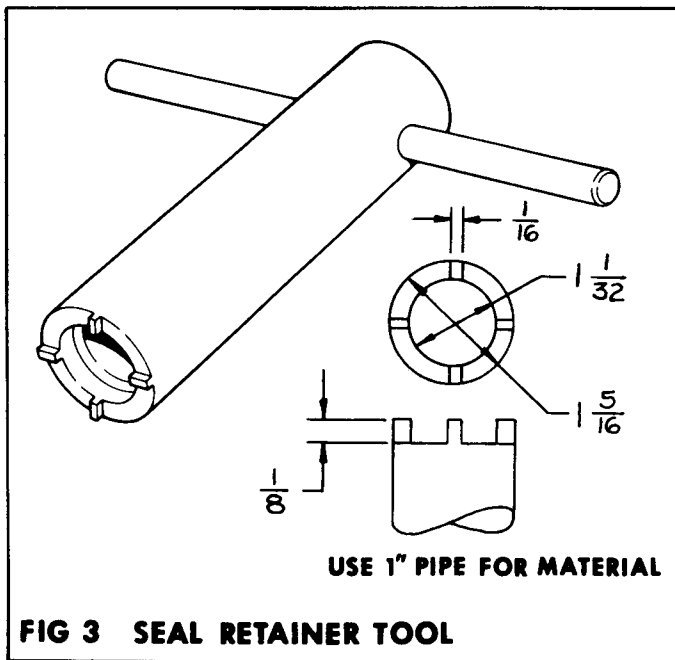
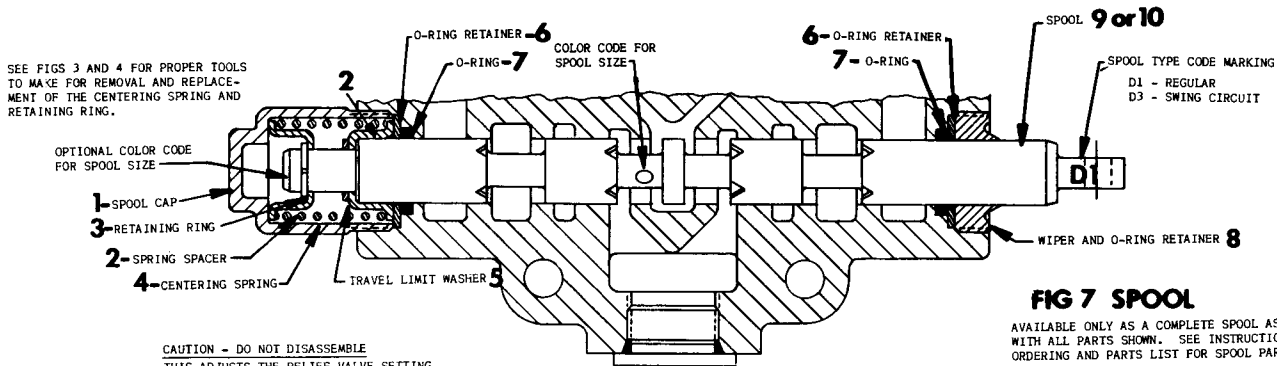

FIG 3 SEAL RETAINER TOOL
FIG 7 SPOOL
Correction: Check travel, should be 5/16" either way or a total of 5/8". See item 32 at end and Fig 7.
Correction: Replace spool end seals, item 32 next and Fig 7.
Tools described in paragraph 2 (a), (b), and (c) (Figs 3, 4, and 5) are not special tools, but will aid considerably in disassembly and reassembly of spring-centered spools. These tools can be made in the shop with little effort.
(a) A sleeve type four pronged tool (see Fig 3) is required to remove or install plastic wiper (8, Fig 7).
3. TO REMOVE AND DISASSEMBLE SPOOLS (see Fig 7)
Remove plastic wiper (8) using special tool (see paragraph 2 (a) and Fig 3), O-ring retainer (6) and O-rings (7).
NOTE - Replacement valve spools are identified by the use of type and color code markings. The type code letters indicate valve function, the color code indicates the spool size. See Fig 7 for location of markings indicating color code and spool type.
When reassembling spring - centered spools, install the spool travel limit washer between spring spacers, refer to Fig 7, (5).
COMPONENT LOCATION GUIDE FOR FIGS 7, 8, 9, 10, 11, 12 AND 13
| Fig 7 TYPICAL SPOOL ASSEMBLY | | |